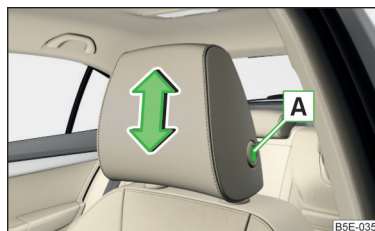

Fig. 72
- To **adjust the height**, hold the locking button [A] and move the rest in the desired direction » Fig. 72.